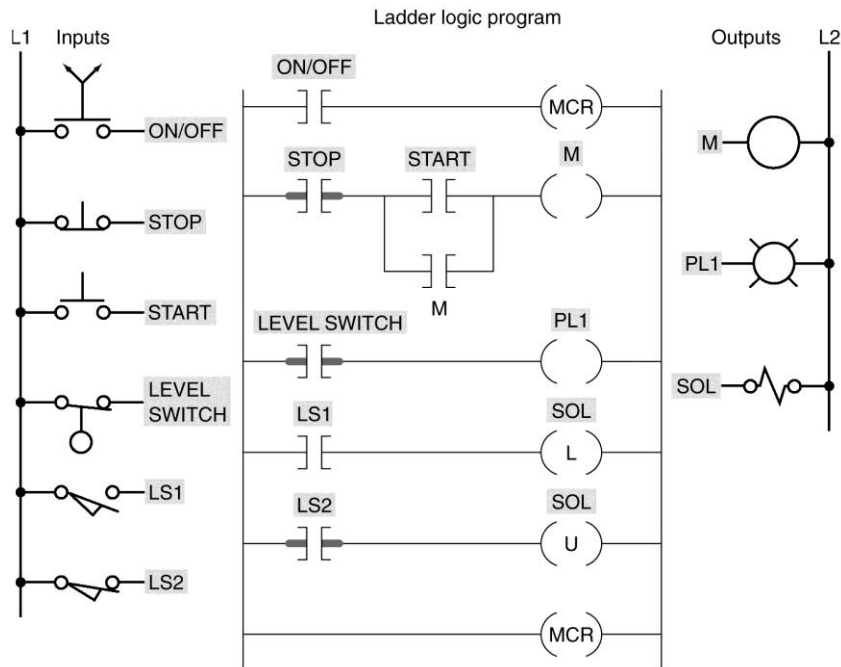

Figure 9-9 Program for assignment 1.
1) Construct a simulated program for the MCR program of Figure 9-9 using any available addresses, switches, and lights on your PLC control panel. After constructing your program on paper, enter the program into the PLC. Demonstrate that when the MCR instruction is de-energized, all nonretentive outputs de-energize and all retentive outputs remain in their last state.